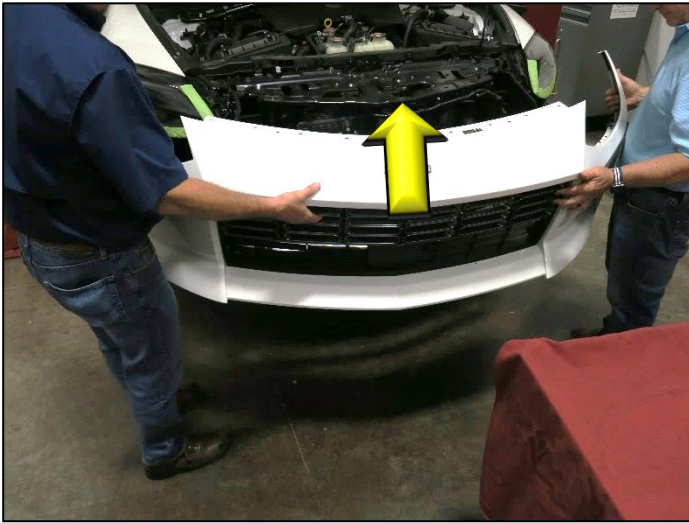

Figure 36
33. Carefully reinstall the front bumper onto the vehicle using (2) people to help prevent damage to the vehicle.
- Place the bumper into position with the sides pulled outward (Figure 36)